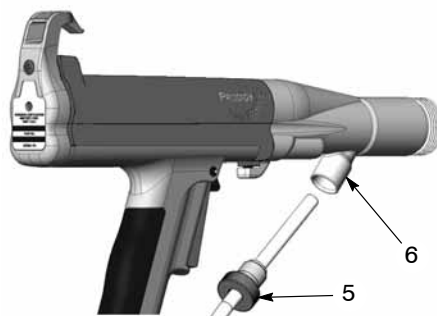

Figure 18 Remove the Lock Knob and Powder Tubing
4. See Figure 18. Unscrew the locking knob (5) on the gun adapter (6).